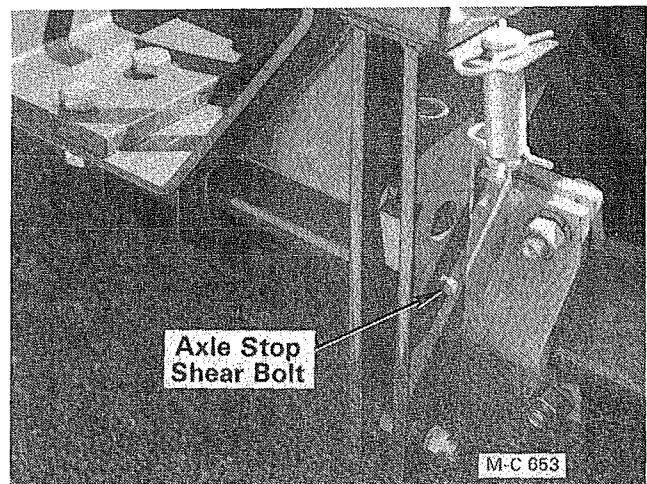

Figure 15E
9. Remove the Shredder pole jack and store it on the jack mount on the right side of the Shredder. Remove the axle stop shear bolt, see Figure 15E. Raise the Shredder with the hydraulic ram or optional mechanical ram.
5. Lower the Shredder with the hydraulic or optional mechanical ram just far enough to install the axle stop shear bolt, see Figure 15E. The shear bolt holds the Shredder axle and wheels up during transport.